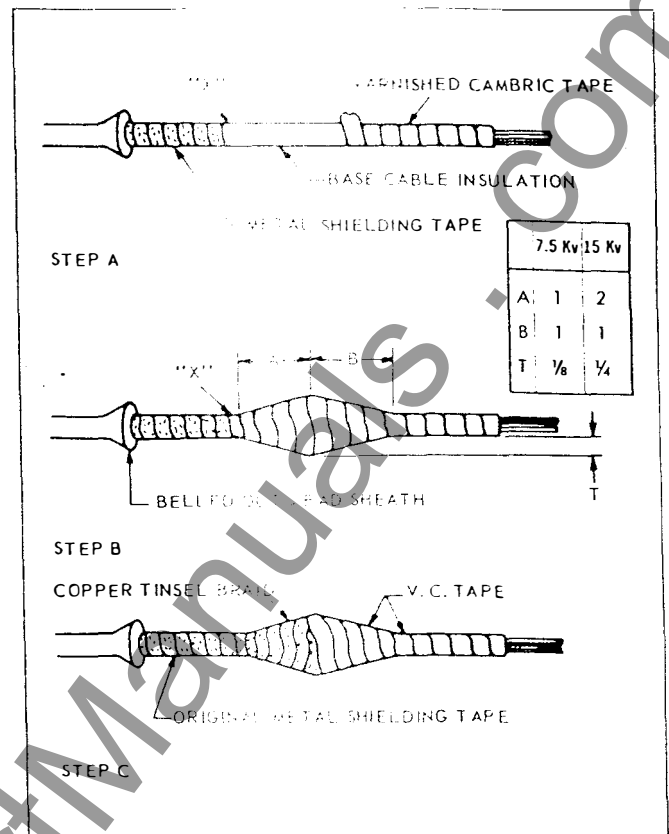

Fig. 9— Typical cable and taped pothead connections.
5. Remove lead sheath from the cable to point marked, being careful not to damage insulation. Bell out lead sheath as shown in Figure 9. For braided cables remove braid down to point "X."
8. Solder cables solidly into the studs. (For voltages above 7,500 stress cones should be made up on cables as shown in Figure 9.)